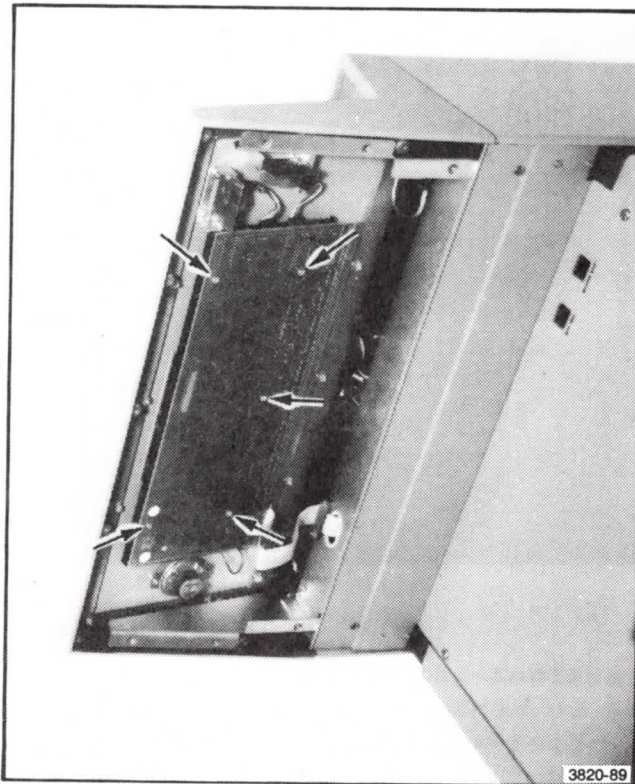

Figure 11-13. Removing the Keyboard.
2. Remove the J1 and J2 connectors -- these attach to the thumbwheels. Also remove the connector attached to the speaker (J3), and the ribbon cable attached to the rear of the keyboard (J4). See Figure 11-13.